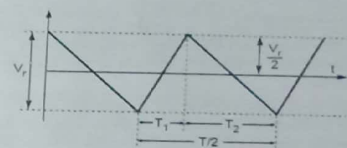

Fig. Q.32.1 Triangular approximation of ripple voltage
- Let V_r be the peak to peak value of ripple voltage, which is assumed to be triangular as shown in the Fig. Q.32.1.